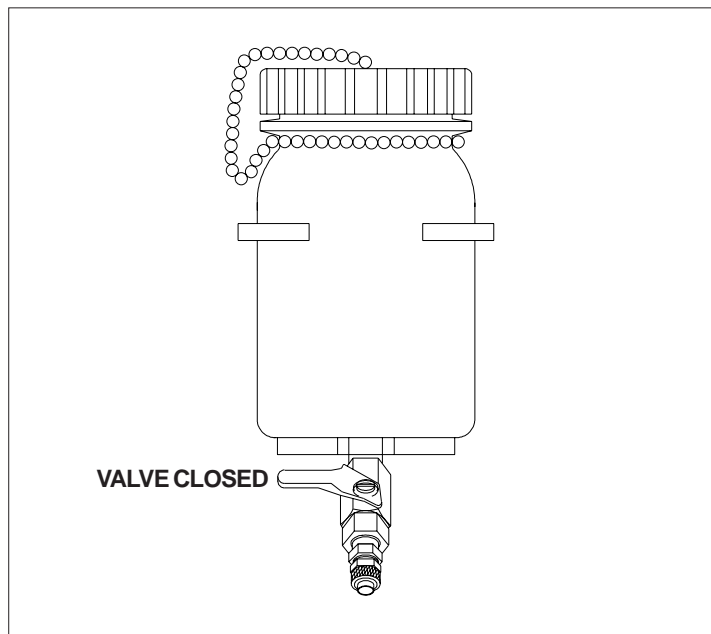

FIGURE 10
- 1 - With the valve on the Ink Reservoir in the closed position (Figure 10), fill the Ink Reservoir approximately 1/2" above the ink level sensor.
- 3 - Rotate the lever on the Pump Head to the right (clockwise) to clamp the Pump Tube in position for operation. Be sure the V-Shaped Tube Retainers seat directly over the Pump Tube (Figure 10). If your system has two Pump Heads, duplicate this procedure for each Head.